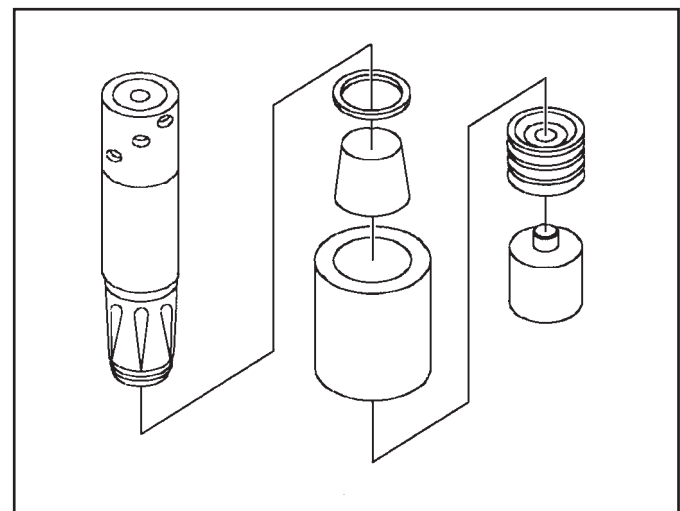

Figure 166
7. Place the hub with the threads facing down on the SMALL support SA9136T-3 (See Figure 166).
8. Place sizer over hub, with the large internal diameter facing down, to act as a seal stop (See Figure 166).
9. Install the expander cone onto the hub and place the sealing ring on the expander (See Figure 166).
10. Use the pusher to install the sealing ring (See Figure 166).